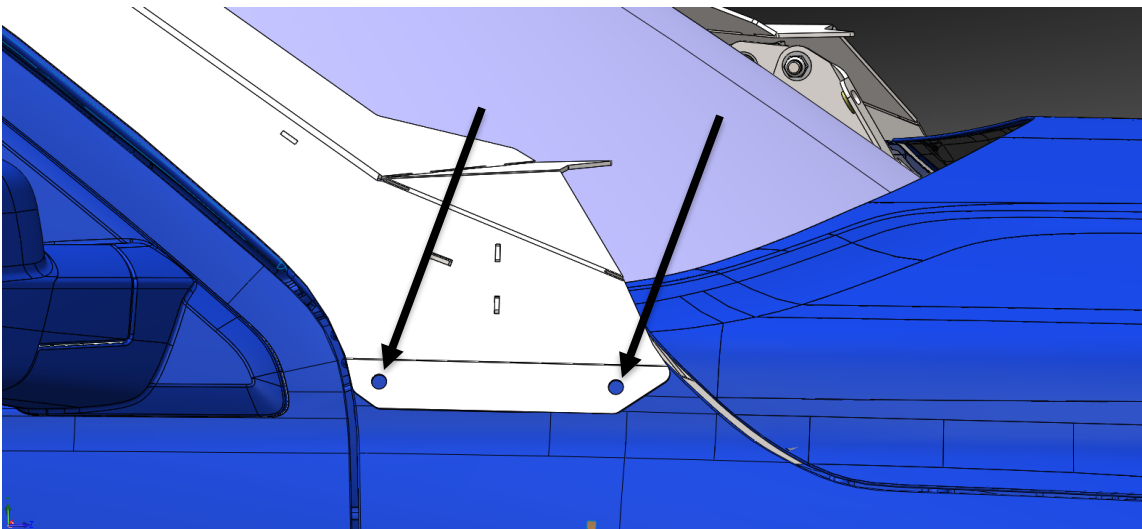

Fig 15
- d. Mark the two Rivnut hole locations as indicated in **Fig 15** by the black arrows and on both driver and passenger arms.